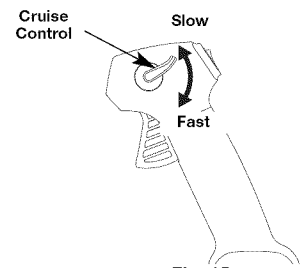

Fig. 15
1. Once the engine has started and warmed up, squeeze the trigger to accelerate the unit as needed (Fig. 15).
2. For longer periods of operation and to eliminate possible finger fatigue, move the cruise control toward the FAST position to incrementally increase or maintain the unit's engine speed (Fig. 15). When the cruise control is pressed, the trigger will recede into the handle.
3. To decrease engine speed, move the cruise control to the SLOW position and the trigger will return to the idle position (Fig. 15).
- Use the cruise control (Fig. 15) to keep the trigger depressed while operating to make continuous operation easier.